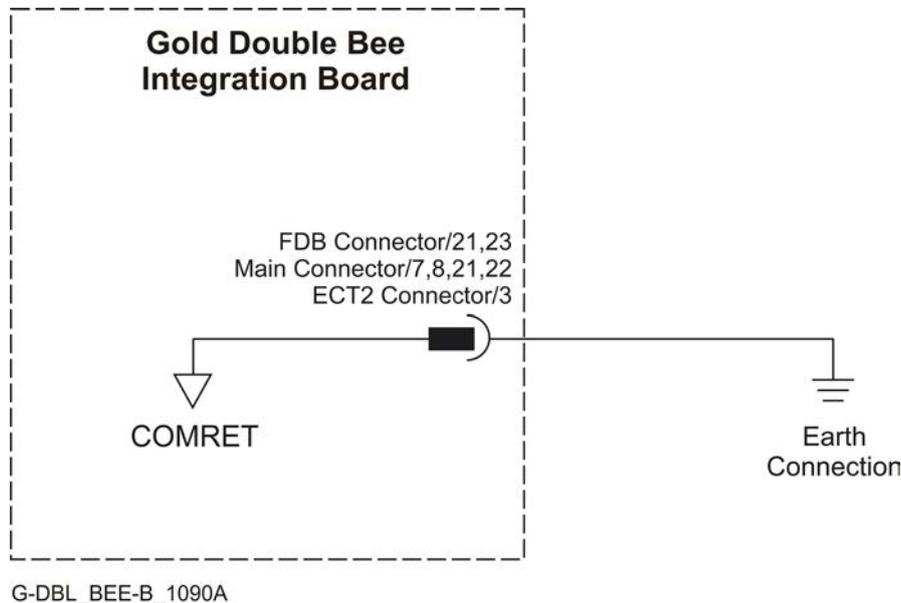

Figure 7: COMRET Connection to the PE
**At least one COMRET pin (Figure 7) must be connected to the Protective Earth (PE).**